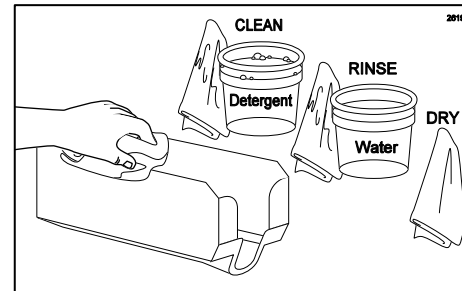

Figure 41
4. Clean the syrup tray with a single service towel and detergent water, rinse and dry thoroughly. (See Figure 41.)